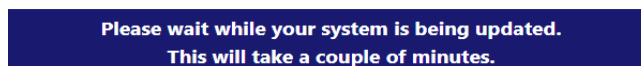

Figure 10-2: The message that will be shown when the uploading process has begun.
3. Click the “Upgrade” button. A message will appear on the same webpage notifying it may take a couple of minutes. It will look like Figure 10-2.